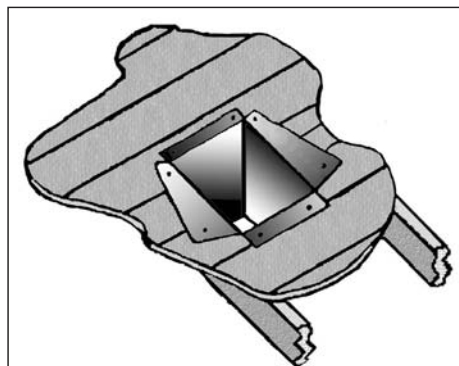

Figure 35: Cathedral Ceiling Support Box Installation.
5. Using tin snips, cut the Support Box from the top corners down to the roof line, and fold the resulting flaps over the roof sheathing (Figure 35). Before nailing it in to the roof, run a bead of non-hardening mastic around the top edges of the Support Box to make a seal between the box and the roof. Clean out any combustible material from the inside of the Support Box.